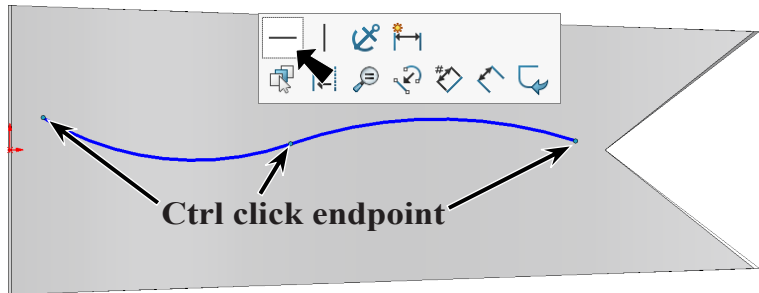

Fig. 27
Step 8. **Ctrl click the three endpoints** of arcs to select all three. Release Ctrl key and click **Make Horizontal** on the context toolbar, Fig. 27.